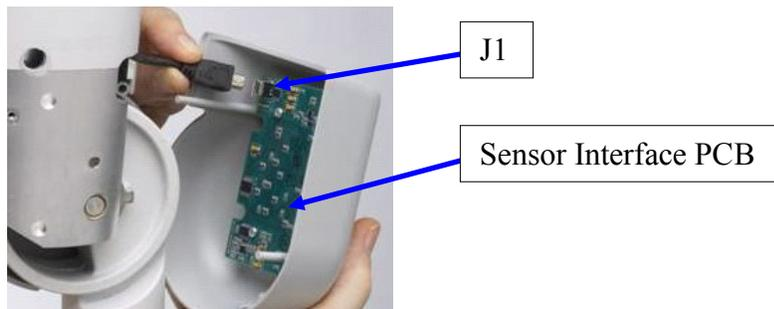

Figure 41
4. Plug the USB cable into J1 of the Sensor Interface PCB arm mount as shown on Figure 41, page 25.